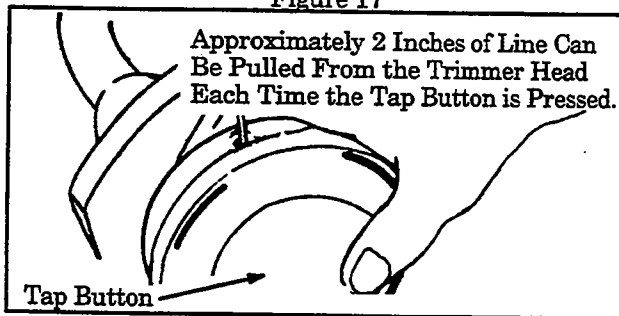

Figure 18
- i. Obtain correct line length, 4–6" (10–15 cm) by pressing the tap button (Figure 18) and pulling on the line again.
**NOTE:** Each time the tap button is pressed, approximately 2" (5 cm) of line can be pulled from the trimmer head. Figure 18.